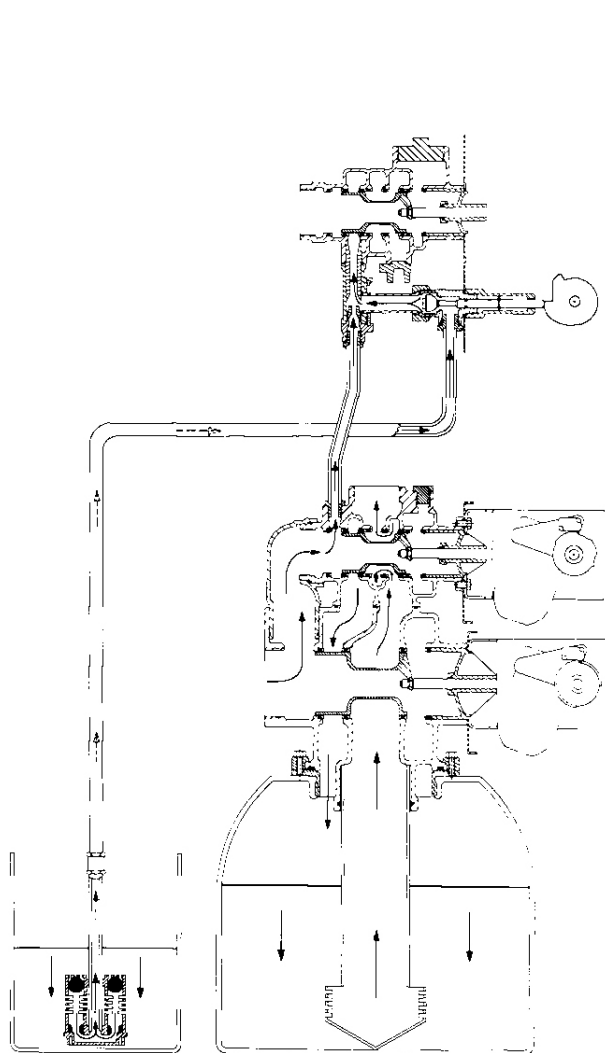

Figure 54. Brine position flow.
4. Brine flows up through center tube, around the piston, and out through the drain line. See Figure 54.